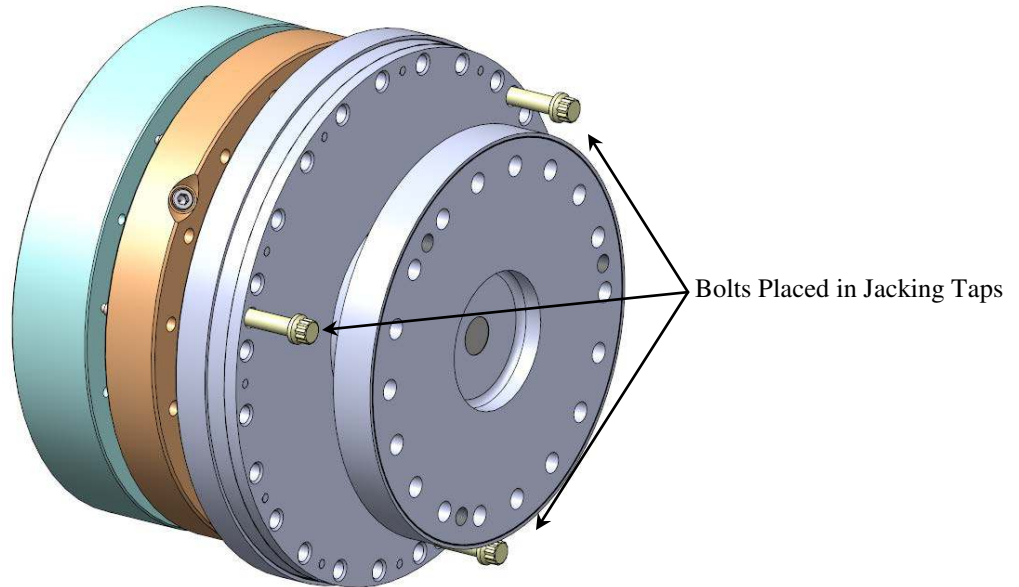

Figure 18 – Bolts in Jacking Taps for Flex Assembly Removal
5.2.2 Insert (3) of the removed 5/16-24 bolts in the jacking taps of the joint as shown in Figure 18.